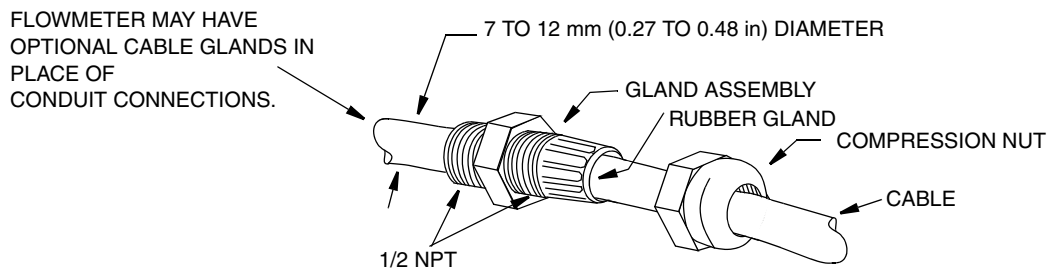
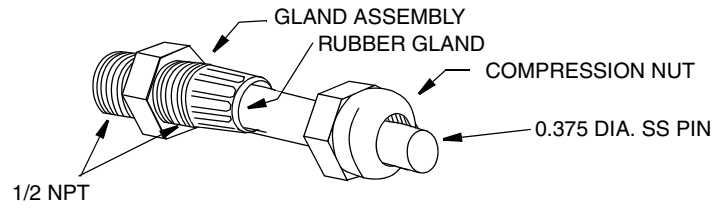

Figure 10. Optional Cable Glands for Use in Nonconduit Installations
Figure 11. Optional Cable Gland Plug for Use in Nonconduit Installations
Wire entrances to the flowtube-mounted transmitter are provided by 22 mm (0.866 in) diameter holes on the side surfaces of the single or dual compartment enclosure. See Figure 8. Optional cable glands are offered for use with cables having thicknesses between 7 and 12 mm (0.27 and 0.48 in) as shown in Figure 10, and are recommended in nonconduit installations.
3. THE HOLES ARE SIZED TO ACCOMMODATE PG 13.5 OR 1/2 NPT CONDUIT CONNECTORS PROVIDED BY USER. IPS ALSO OFFERS OPTIONAL CABLE GLANDS FOR FIELD WIRING. (SEE FIGURE 10).
4. TO MAINTAIN NEMA 4X MOISTURE, DUST, AND CORROSION PROTECTION, USE APPROVED WATER TIGHT CONDUIT FITTINGS AND PLUG ALL UNUSED HOLES WITH L0400BD OR EQUIVALENT, OR PLUG UNUSED CABLE GLANDS WITH OPTIONAL PLUG SHOWN IN FIGURE 11. (RED SHIPPING PLUGS DO NOT MEET NEMA 4X REQUIREMENTS.)
Optional cable glands are used to provide a rain tight, strain relieved entrance for 7 to 12 mm (0.27 to 0.48 in) diameter cable. Body and seal nut are nylon; the compression gland is neoprene. See Figure 10 and Figure 11.
5. If the flowtube has optional cable glands, turn the compression nut (shown in Figure 10) until the rubber gland is snug around the input-signal cable.
4. If the flowtube has optional cable glands, turn the compression nut (shown in Figure 10) until the rubber gland is snug around the input-signal cable.